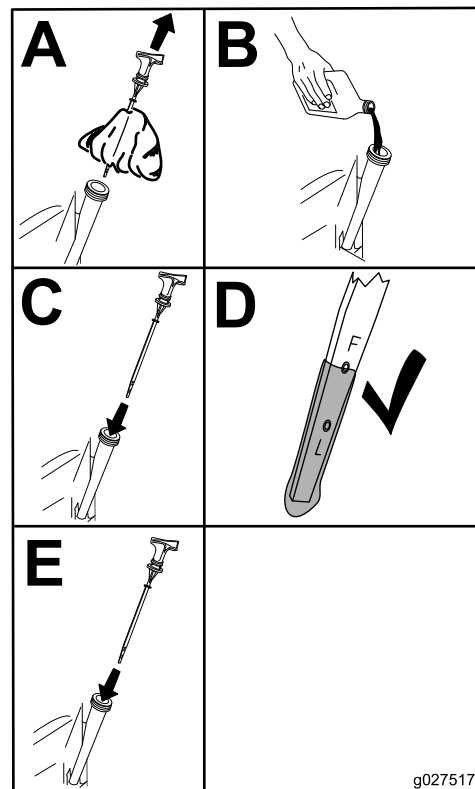

Figure 33
5. Slowly pour approximately 80% of the specified oil into the filler tube (Figure 33).